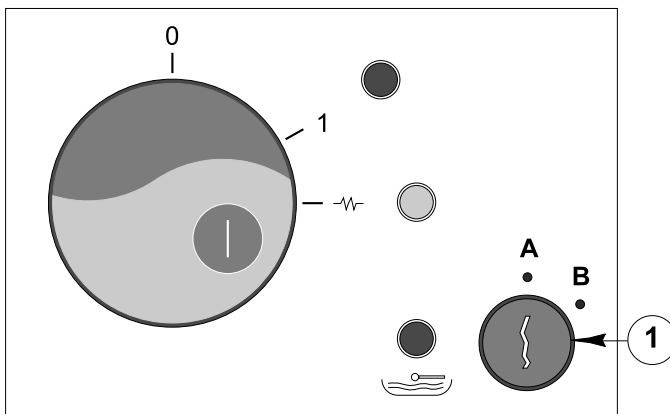

FIG. 10 - Machine start up switch and dose programming with key
Set the programming key (Fig.10; pos. 1) to position B and start the programming as shown in chapter 5.7. At the end of the programming reset the programming key to the normal position A.